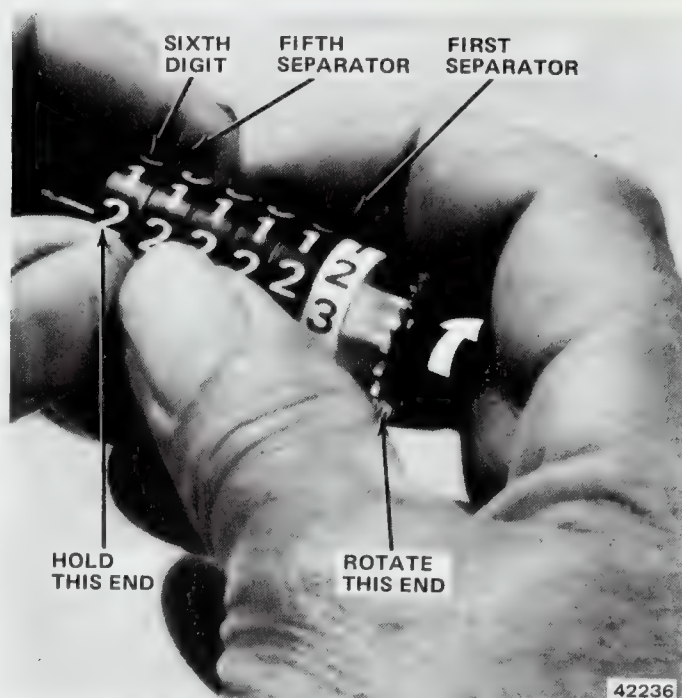

Fig. 3C-17 Advancing Odometer Reading (For Replacement Only)
Refer to figure 3C-17 for parts identification.
- (1) Hold fifth separator as shown in figure 3C-16.
- (2) Rotate first five numerals (five on right side) in their normal direction until the desired sixth digit is obtained.
- (3) When the desired sixth digit is obtained, align the fourth separator with the fifth separator.
- (4) Rotate first four numerals (four on right side) repeating the process until the desired fifth digit is obtained. Repeat process with remaining digits to indicate desired mileage.
- (1) Disconnect speedometer cable at transmission end and unhook from underbody routing bracket.
- (2) Remove package tray, if equipped.
- (3) Depress locking tab and disconnect speedometer cable from cluster (fig. 3C-15).
- (4) Remove cable and grommet from dash panel.